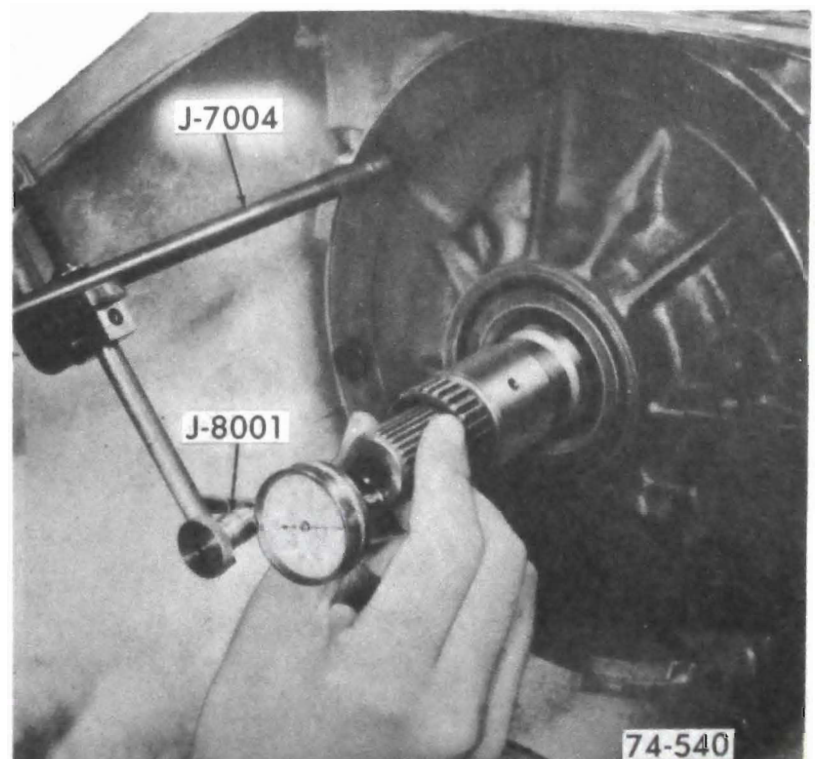

Figure 76-84
- b. Install a 5/16-18 threaded slide hammer bolt or J-7004, into bolt hole in pump. See Figure 76-84.
- c. Mount dial indicator on the rod and index indicator to register with end of turbine shaft. See Figure 76-84.